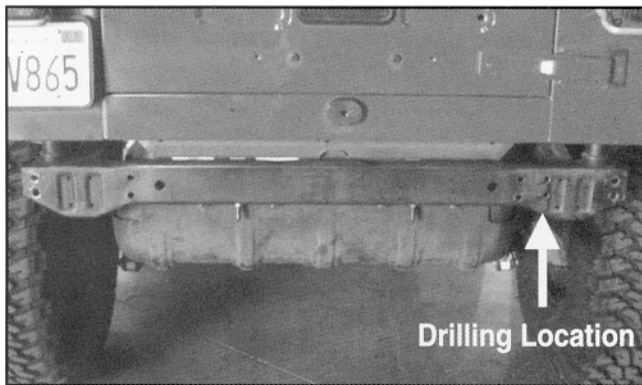

Figure 5
6. Position Bumper in place and start bottom bolts using (2) 7/16"-14 x 1 1/4" Hex Head Bolts or (2) M12 x 35mm Hex Head Bolts (depends on the year model), (2) 7/16" Flat Washers, and (2) 7/16" Lock Washers. Do not tighten at this time.
7. 97 TJ's have holes on the inside of the frame rail. These holes are not on 98-on TJ's and are not required. These are optional and will require dropping the fuel tank to reach the installation of the inner Metal Plates. However if you would like to install the inner Metal Plates, they must be drilled to 7/16".NOTE: Measure the distance on the mounting bracket and match these measurements on the frame or you may mount the outer four holes to the frame and use the holes on the bracket as a template to mark the drilling locations (Figure 5). Remove Bumper and set aside. Drill the frame holes to 7/16". **CAUTION: Use extreme care in assuring the locations you drill are correct. Before drilling be sure to check the backside of the frame for possible hazards or obstructions.**